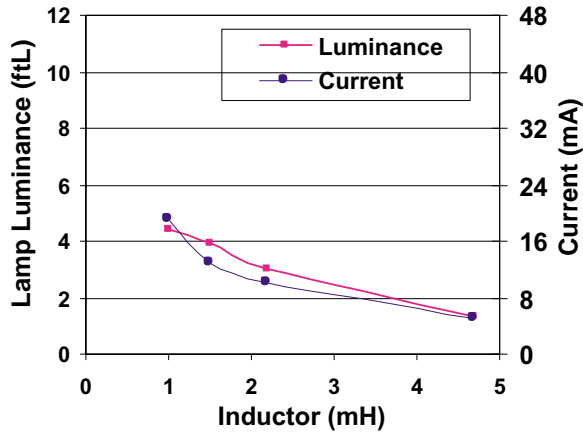

Figure 3:  $V+=1.5V$ ,  $1 \text{ in}^2$  EL Lamp
The external inductor (L) selection for a D356B circuit greatly affects the output capability and current draw of the driver. A careful designer will balance current draw considerations with output performance in the choice of an ideal inductor for a particular application. Figures 3, 4, and 5 show typical brightness and current draw of a D356B circuit with different inductor values, lamp sizes, and supply voltages. Please note that the DC resistance (DCR) of inductors with the same nominal inductance value may vary with manufacturer and inductor type. Thus, inductors made by a different manufacturer may yield different outputs, but the trend of the different curves should be similar. Lamp luminance is also a function of lamp size. In each example, a larger lamp will have less luminance with approximately the same current draw.